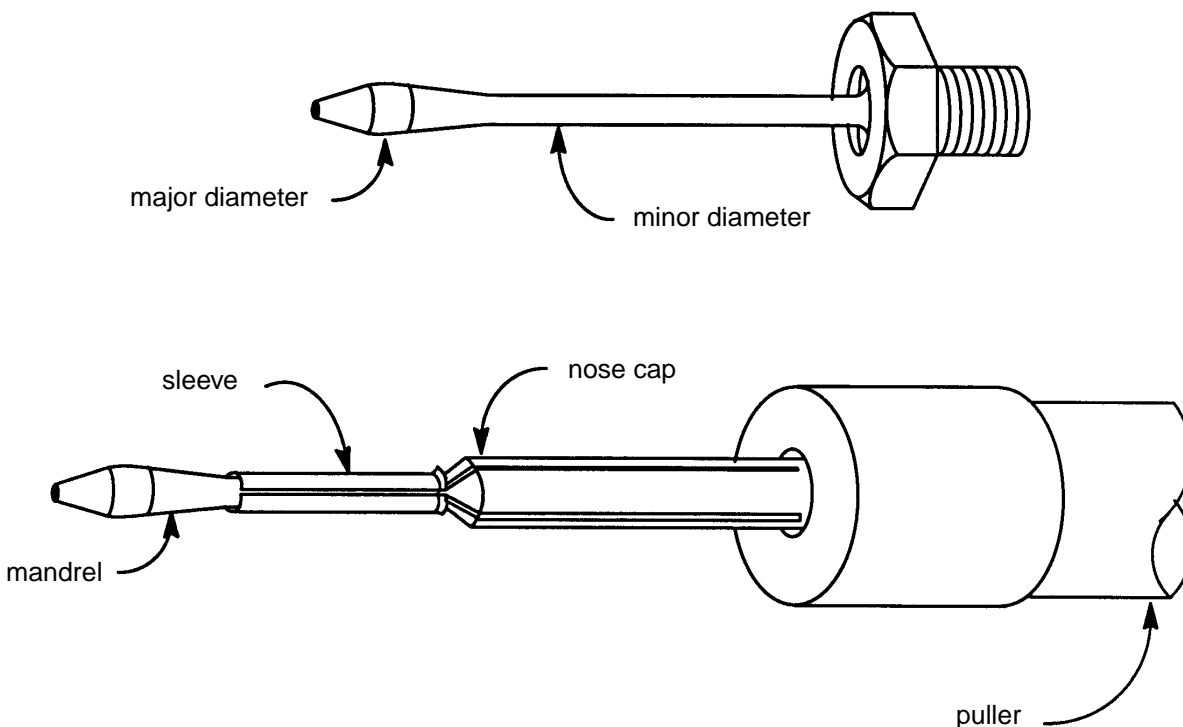

Figure 3 - Mandrel and Nosecap (Split Sleeve Process)
- 5.2.3 **Mandrel (Split Sleeve Process):** The purpose of the mandrel is to expand the reamed starter hole. The major diameter of the mandrel provides the radial interface required by the split sleeve cold expansion process. The minor shank diameter is sized so that when the appropriate sleeve is placed on the mandrel, it will fit into the correct starting hole (see Figure 3).
- 5.2.4 **Nosecap:** The purpose of the nosecap assembly is to retain the split sleeve in the hole while the mandrel is drawn through the sleeve (see Figure 3).